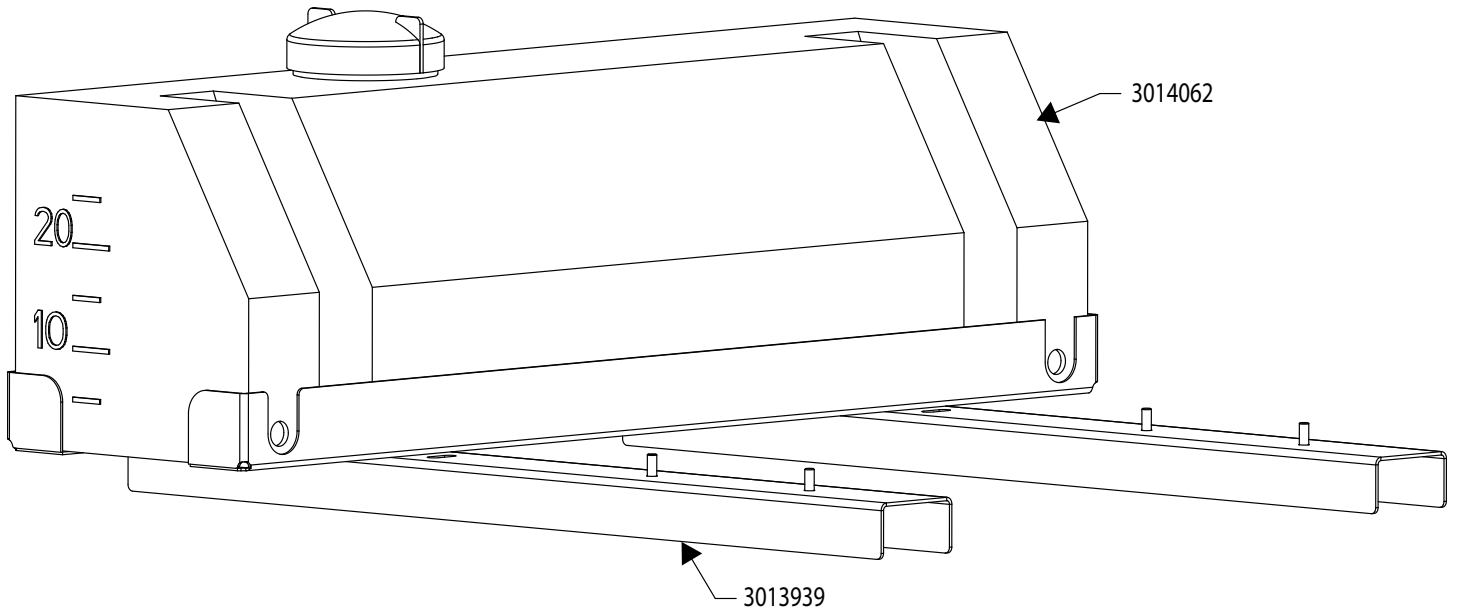

Fig. 1
- 1.** Position Support (3013939) in truck's bed. Place 30 gal. Tank (#3014062) on support as shown in Fig.1. Strap tank to support using straps 149650501.